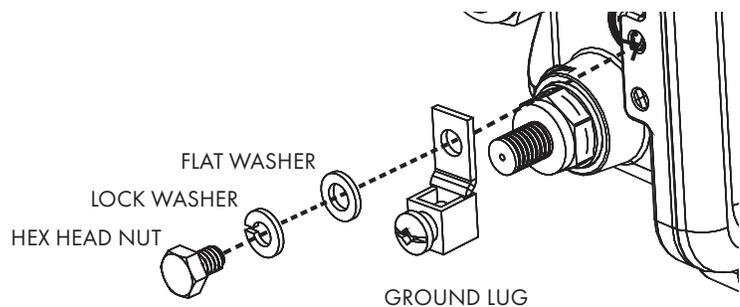

Fig. 1-4, Ground Lug Hardware Stack-up
1. Locate the ground lug mounting location **[1]** and install the ground lug hardware as shown in Fig. 1-4. Tighten the hex head nut to 44 in-lbs (5 Nm).